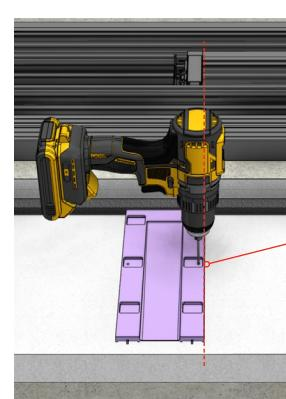

Fig 8
- Fasten the shims using concrete screws with a min length of 1 1/4", (fig 8). Use a 1 1/4" wood screw for subfloor installations.